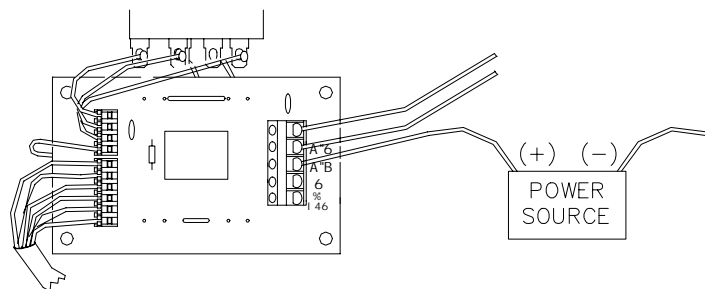

Figure 12
1. Connect the ground wire from the alarm to the negative (-) connection at the power source. (Figure 12)
3. Connect the positive (+) connection from the power source to the common (C) terminal on the circuit board.